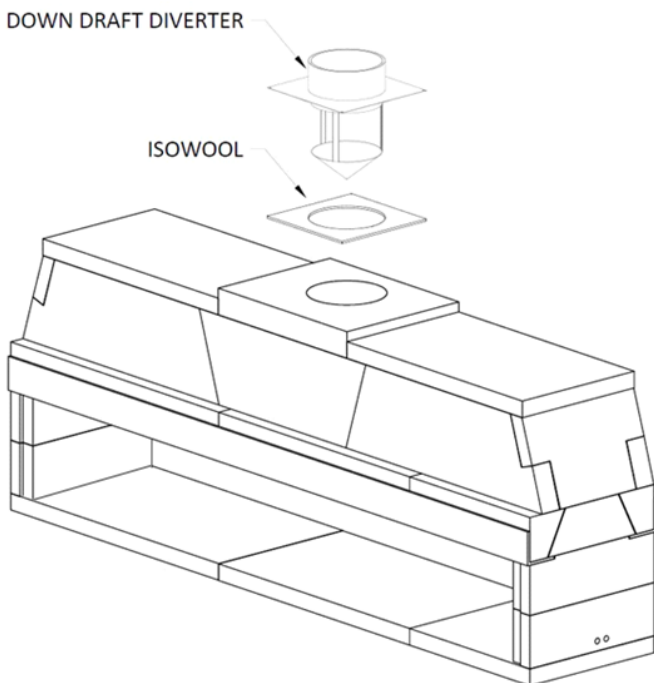
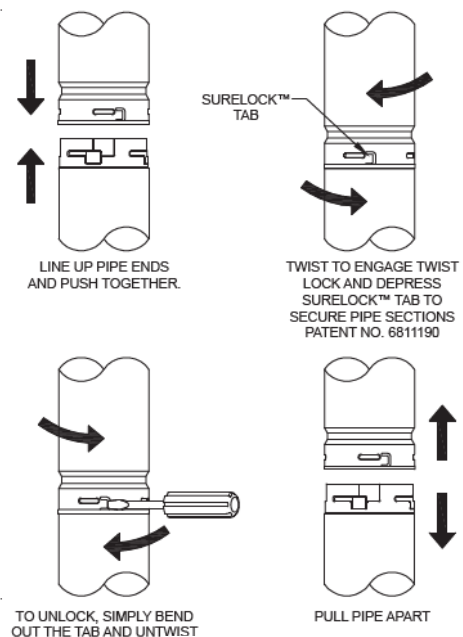

FIGURE 25
FIGURE 26
- 2) Center the Isowool blanket over Isokern Top Plate’s outlet and trace the outlet’s outline with a pen or marker. Cut a hole in the blanket along this outline to match the hole in the Isokern top plate. Center the cut Isowool blanket over the Isokern Top Plate flue opening, then center Anchor Plate over the Isowool blanket (**Figure 25**).
- 3) Secure the Anchor Plate with four (4) masonry anchors.
- 4) Starting at the anchor plate, attach the first section of B-Vent Pipe. A minimum of 12” of straight pipe will be required before any offset. The B-Vent sections and components use the Metal-Fab positive twist-lock for interconnections. Align the ends of the vent, push together then twist section to lock in place (**Figure 26**).